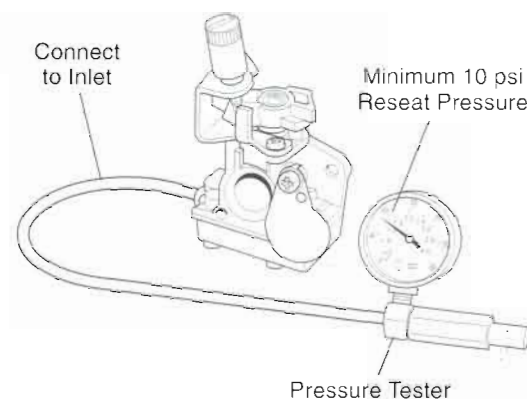

Figure 3.38 Test for Pop-off and Reseat Pressures
- Pressure test the assembled carburetor for pop-off and reseat values (Figure 3.38). A carburetor that fails to reseat and hold a pressure of at least 10 psi must be disassembled and inspected for an incorrectly adjusted, dirty, sticking, or otherwise defective metering valve.